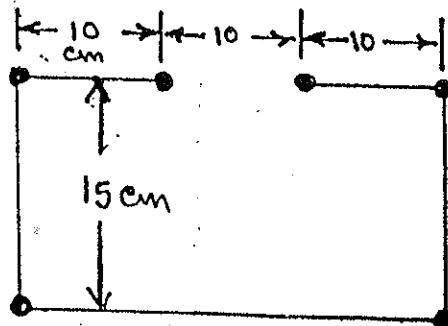

Fig. 2
- (b) Find shear flow of the open section shown in fig. 2 Area of each stringer = 6 cm². The loads are $S_x = 10 \text{ kN}$ and $S_y = 50 \text{ kN}$ acting through the shear center.